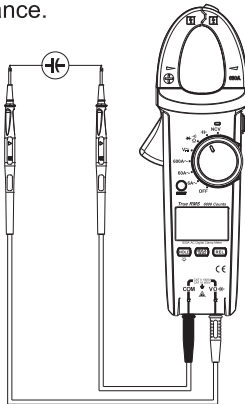

Figure 9
7. Capacitance measurement (See Figure 9)